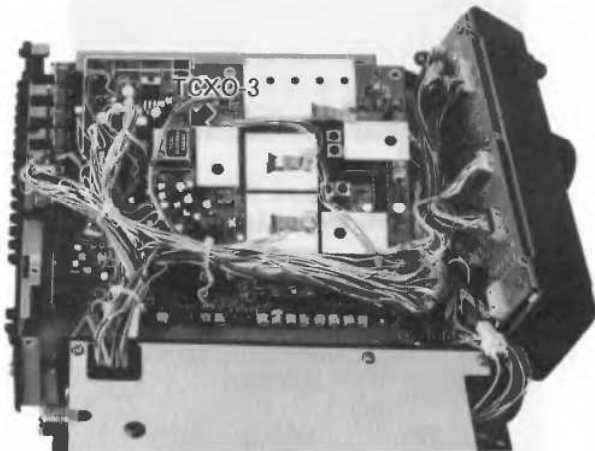

Figure 9: TCXO-3 Orientation
- ❑ Straighten the leads on the TCXO-3 module, if necessary. Then position it so that the trimmer hole is oriented as shown in Figure 9 (the label should be upside-down when viewed from the rear), and push the module leads through the board. Hold the module snug against the board while soldering it in place on the other side. Cut any excess lead length.